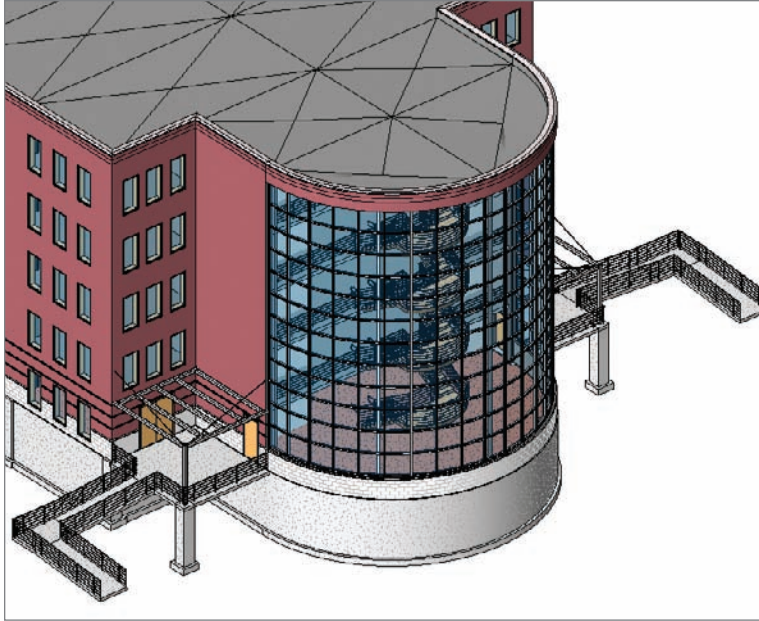

FIGURE 16.26 The curtain wall in 3D
17. Go to a 3D view. Your curtain wall should resemble Figure 16.26.